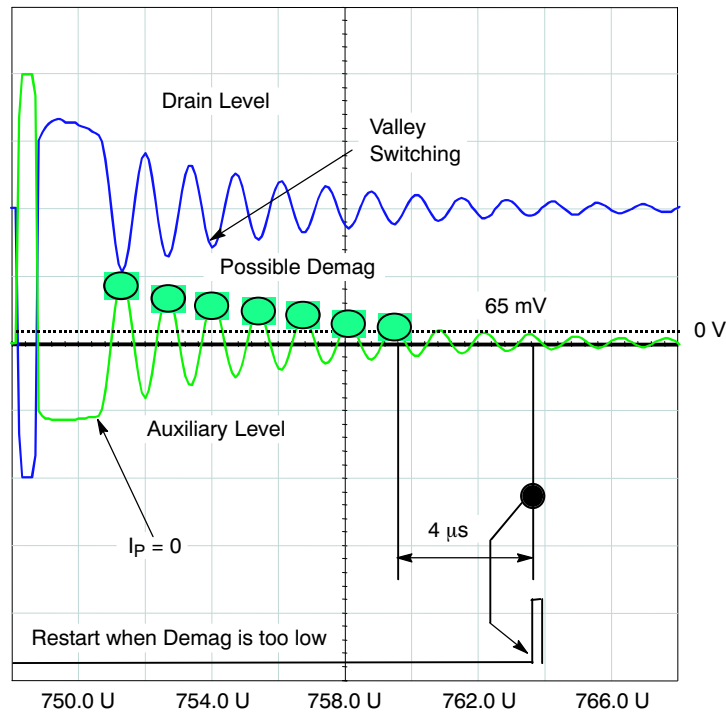

Figure 6.
To detect the zero primary current, we make use of an auxiliary winding. By coupling this winding to the primary, we have a voltage image of the flux activity in the core. Figure 6 details the shape of the signal in BCM.
The auxiliary winding for demagnetization needs to be wired in FORWARD mode only. As Figure 6 depicts, when the MOSFET closes, the auxiliary winding delivers $(N_{aux}/N_p \cdot V_{in})$. At the switch opening, we couple the auxiliary winding to the main output power winding and thus deliver: $(-N_{aux}/N_s \cdot V_{out})$. When DCM occurs, the ringing also takes place on the auxiliary winding. As soon as the level crosses-up the internal reference level (65 mV), a signal is internally sent to re-start the MOSFET. Three different conditions can occur:
3. As can be seen from Figure 6, the parasitic oscillations on the drain are subject to a natural damping, mainly imputed to ohmic losses. At a given point, the demag activity on the auxiliary winding becomes too low to be detected. To avoid any re-start problem, the TY72011 features an internal 4.0 μs timeout delay. This timeout runs after each demag pulse. If within 4.0 μs further to a demag pulse no activity is detected, an internal signal is combined with the VCO to actually re-start the MOSFET (synchronized with Ct).